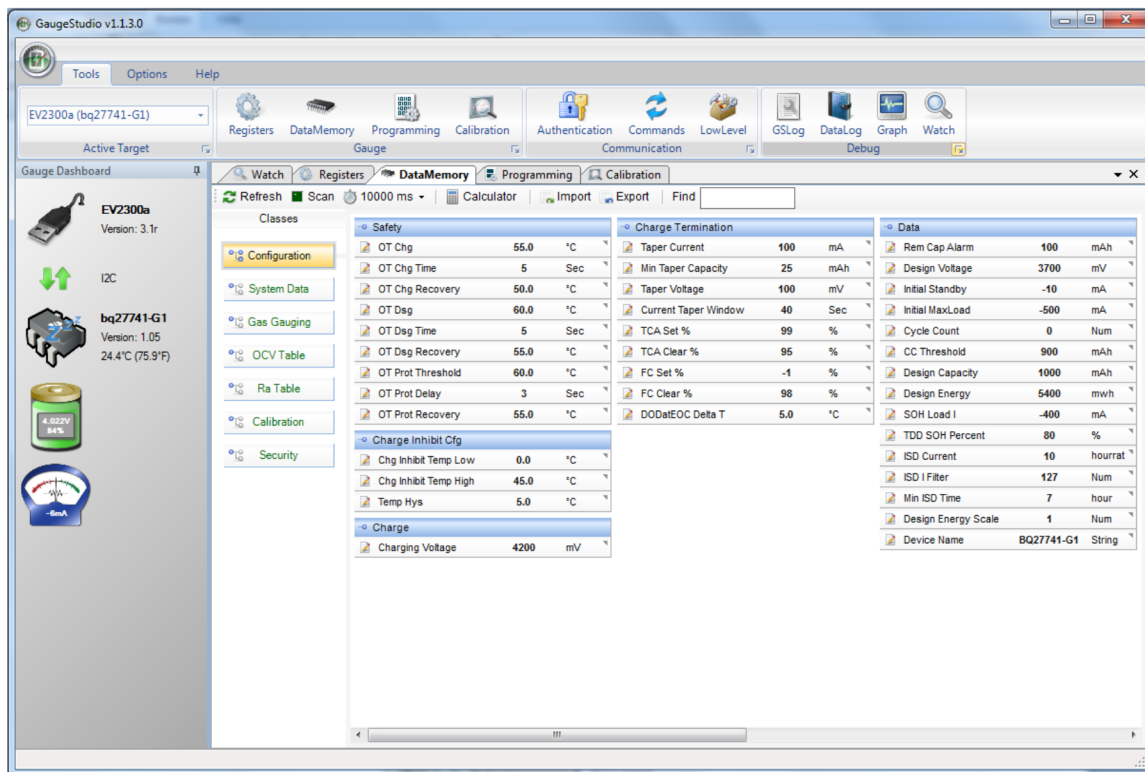

Figure 8. DataMemory Screen
**IMPORTANT:** The correct setting of these options is essential to get the best performance. The settings can be configured using the *DataMemory* window seen in the main *GaugeStudio* window (see Figure 8).